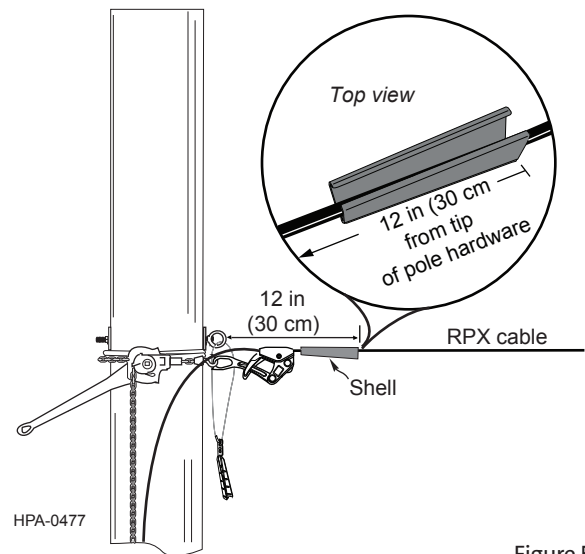

Figure 5
Step 6: With the cable tensioned, hold the shell around the cable about 30cm (12 in) (the approximate length of the bail) from the tip of the pole hardware as shown in Figure 5. The cable should be lying flat inside the shell.